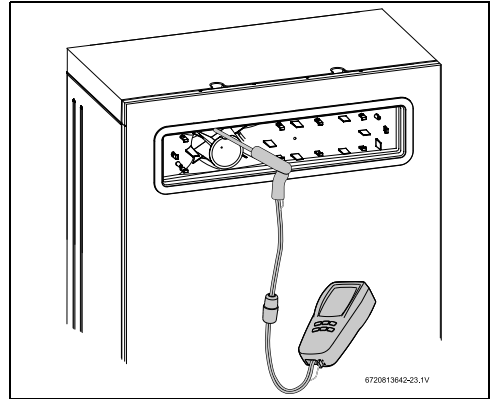

Fig. 51 Measuring port
- ▶ Insert analyzer probe into the measuring port (approx. 1.5" inserted), see fig. 51.